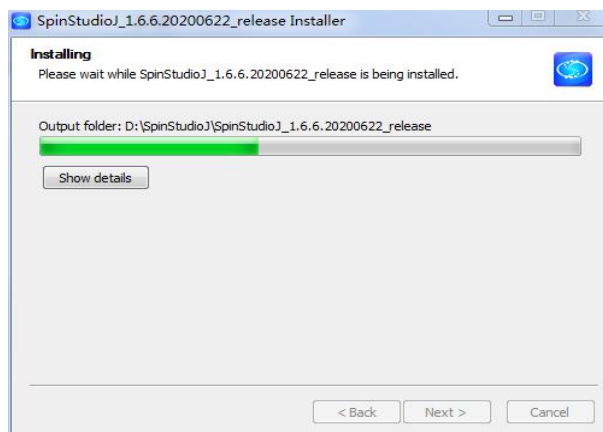
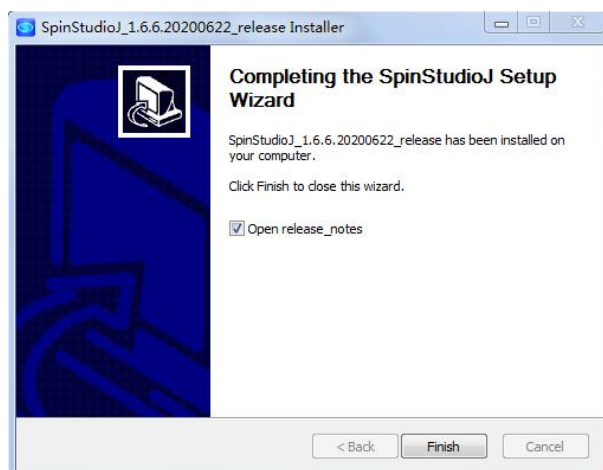

Figure 2.6 Installing
Figure 2.7 Finish installation
6. The installation process takes 2~3 minutes (Figure 2.6). After the installation is complete, "Open release\_notes" is checked by default (Figure 2.7), and clicking Finish will automatically open the release notes. If unchecked, after the installation is complete, you need to go to the installation directory to view the release notes.